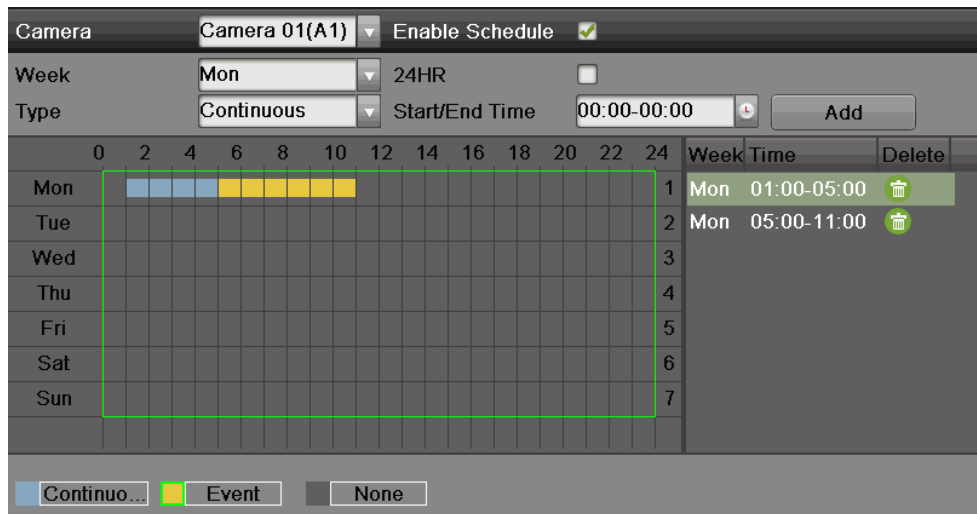

Figure 66 Record Schedule Configuration Example
- 4) Select the Add button to add time frame to schedule. The newly added time frame will appear in the schedule on the right. You can click  to delete the selected time period on the right. Continuous recordings are shown in blue on the schedule while Event recordings are shown in yellow. An example of this can be seen in Figure 66.